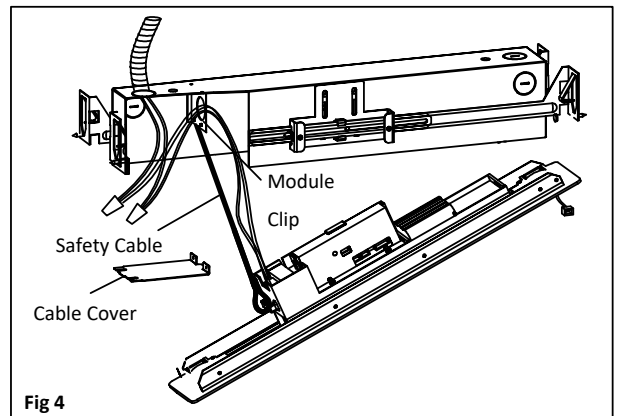

Fig 4
3. Hang safety cable from the module clip (see Fig 4)